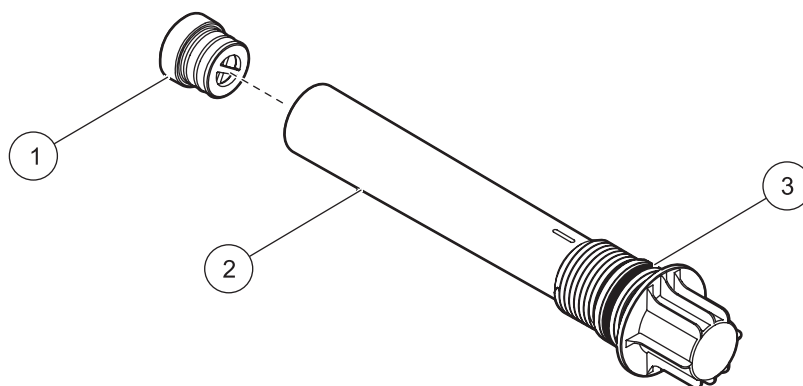

Figure 28 Desiccant holder
2. Remove the plug from the end of the desiccant tube (Figure 28) and discard the spent desiccant.
5. Apply grease to the O-ring (Figure 28).